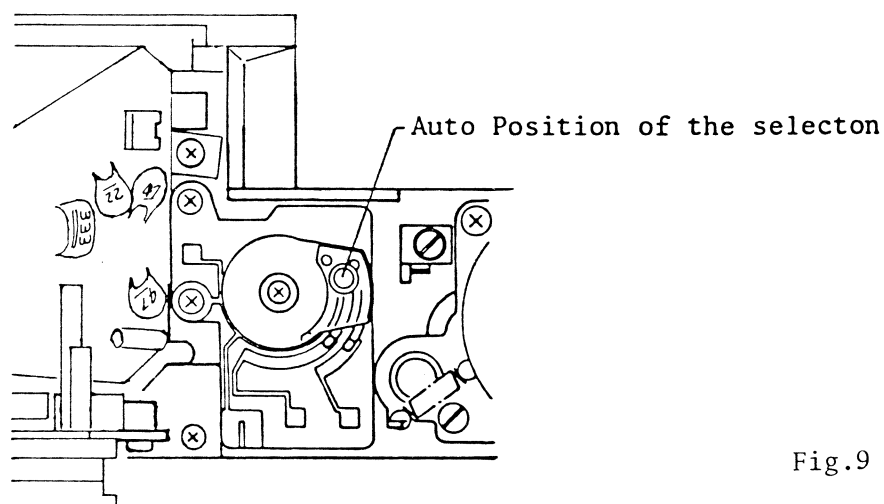

Fig.9
- a. Set the selector to Auto position.(Fig. 9)